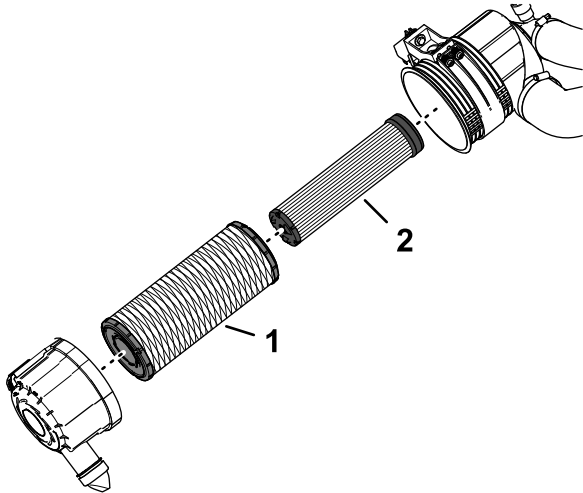

Figure 121
1. Check the safety-filter element (Figure 121). If it is dirty, replace it.
Important: Never attempt to clean the safety filter (Figure 121). Replace the safety filter with a new one after every 3 primary filter services.